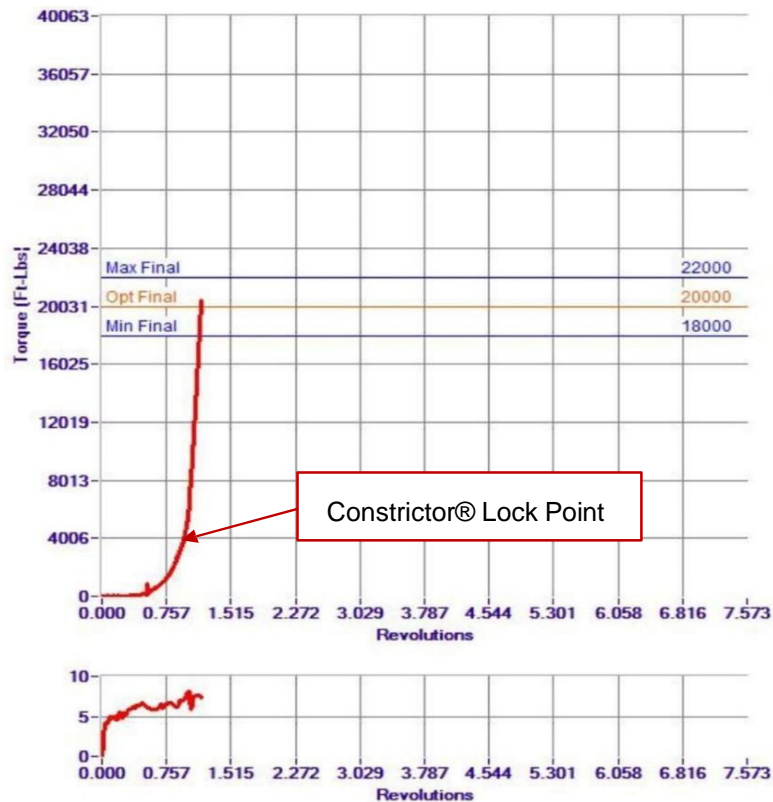

Figure 6: Example of a Proper Make-up Graph
4.16 Figures 6 and 7 are examples of unacceptable make-up graphs where too much thread compound was applied.